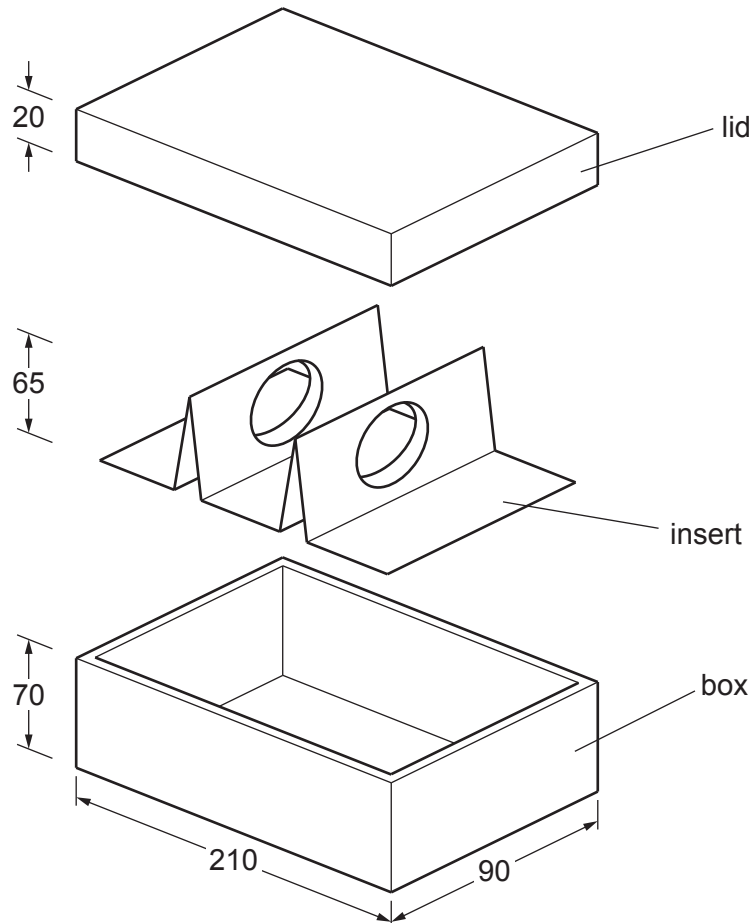

Fig. 1.1
- 1 Fig. 1.1 shows details of the cardboard lid, box and insert used to package fragile ceramic balls. The packaging will be made in a school workshop.